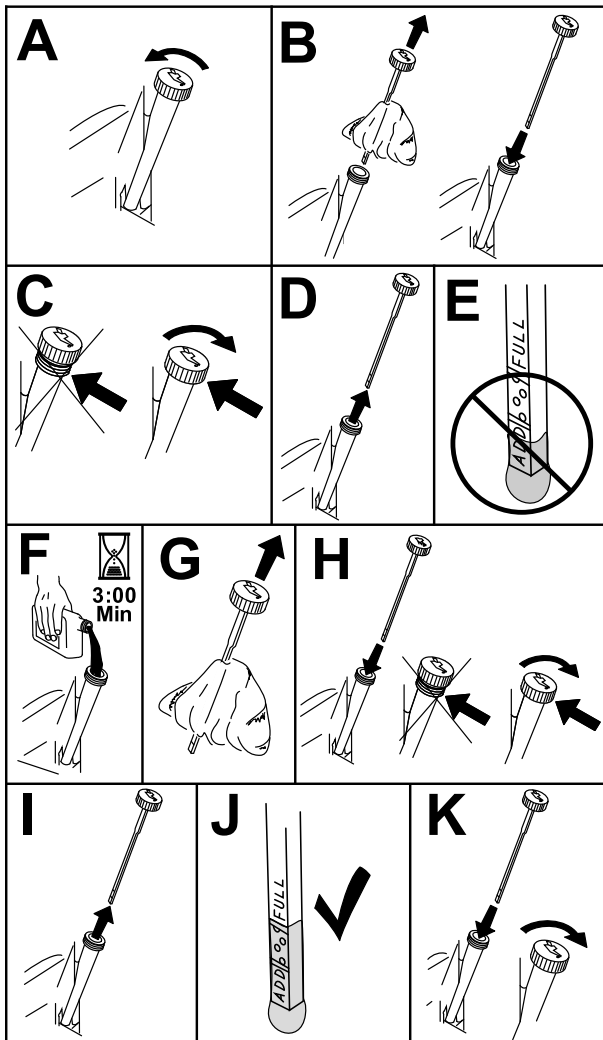

Figure 40
- To keep dirt, grass clippings, etc., out of the engine, clean the area around the oil-fill cap and dipstick before removing it (Figure 40).